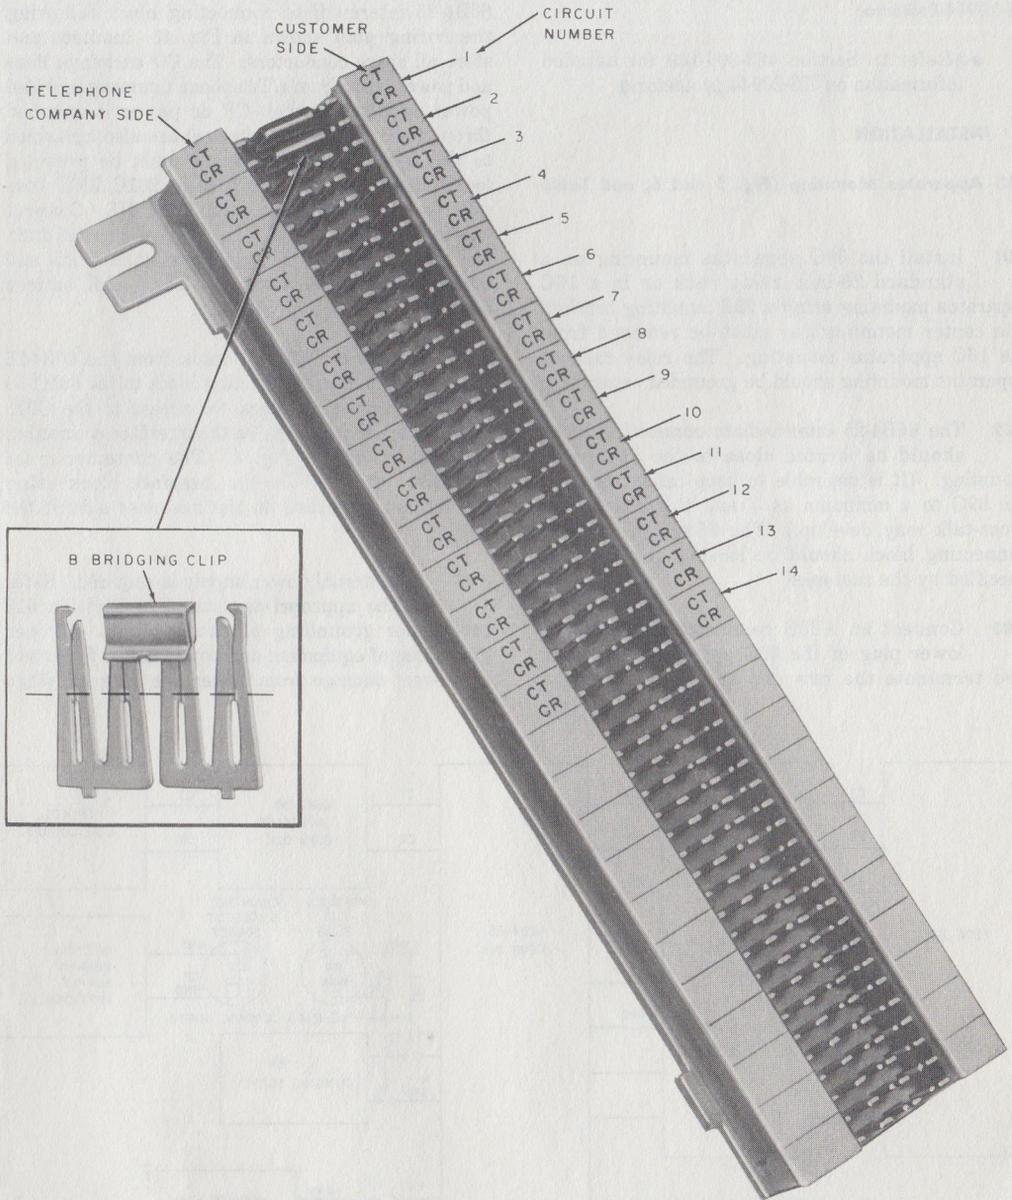

Fig. 4—66M1-50 Interface Connecting Block
- Block, Connecting, 66M1-50 (as required, Fig. 4).
- Clip, Bridging, B (as required, shipped 25 per package, Fig. 4).
3.04 Extend the CT, CR leads from the 66B4-25 intermediate connecting block to the 66M1-50 interface connecting block for access to the CPE. Stencil lead designations on the interface connecting block as shown in Fig. 4. The customer must terminate the CPE on the interface block using the terminal stenciled on the customer side of the block.
6.01 For connection information using the 69G apparatus mounting, refer to Fig. 4, 5, and 6, and Table E.
6.02 For connection information using the 604B panel, refer to Fig. 4, 7, and 8, and Tables A, B, C, D, and E.